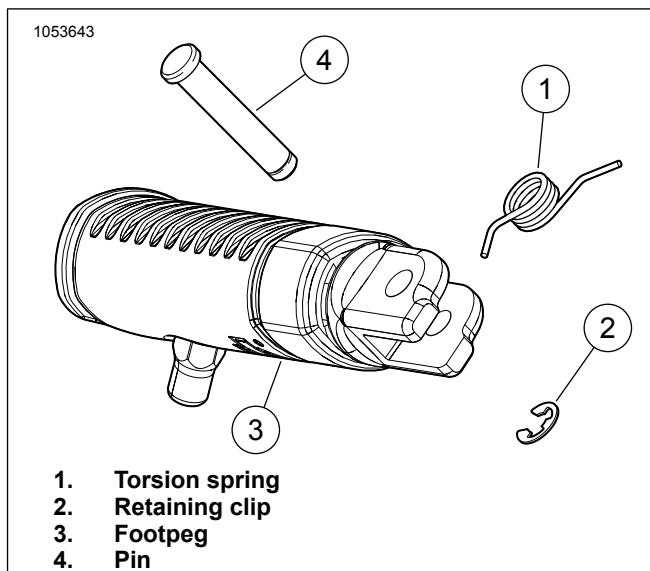

Figure 3. Rider Footpeg Torsion Spring Installation
1. See Figure 3. Remove pin (4) and retaining clip (2). Retain.
2. Save all hardware, including torsion spring (1), for installation of **new** footpegs (3).
1. See Figure 3. Insert short leg of torsion spring (1) into hole in **new** footpeg (3).
2. Align long leg of torsion spring (1) to hole in foot peg mount and insert.
3. Rotate footpeg (3) into position in clevis and insert pin (4) through clevis, footpeg (3) and spring (1).
See Figure 3. When performing the next step, verify that the spring is positioned inside of the footpeg.